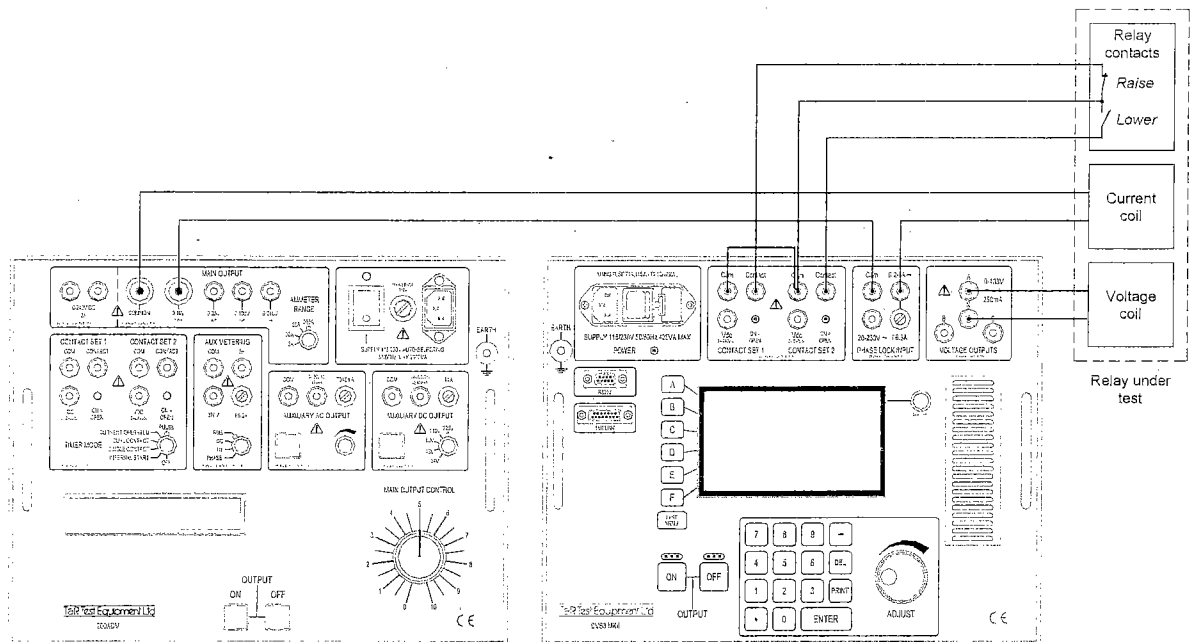

Figure 3.2 Connections for AVR relay with LDC
- Connect an auxiliary supply to the relay if required (not shown in figure 3.2). The auxiliary dc supply output from the 200ADM may be used for this purpose.